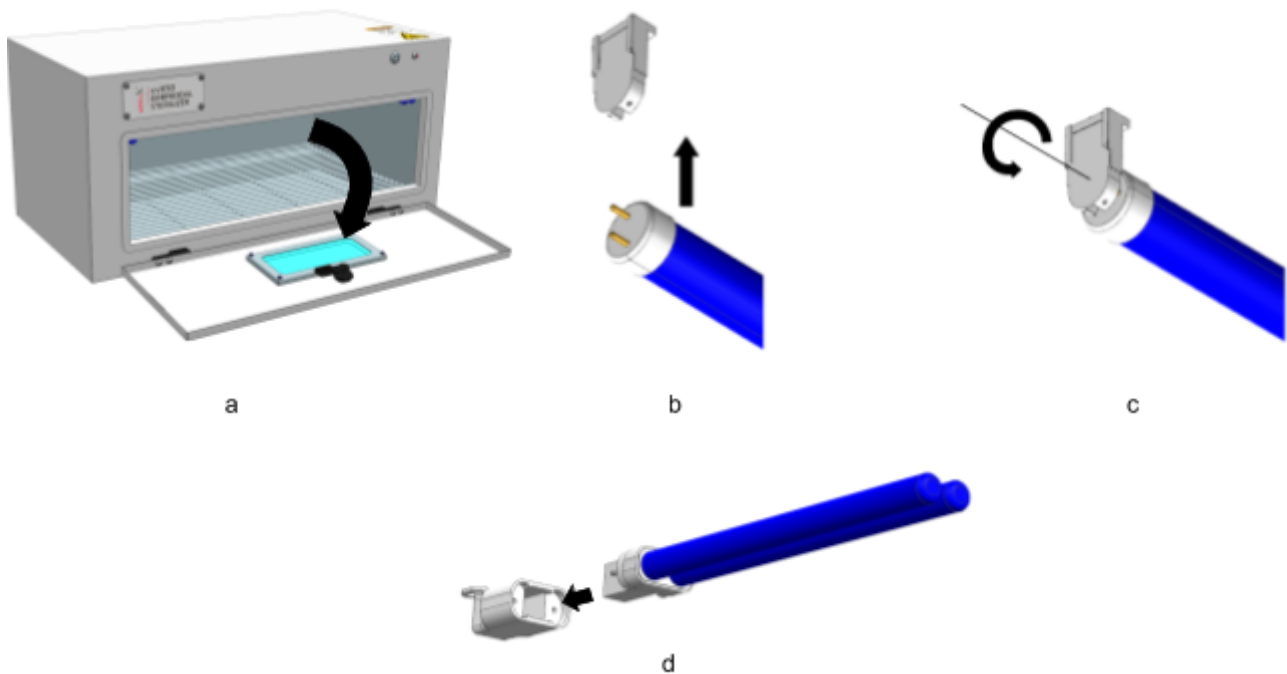

Figure 2: Lamp Installation Instructions
Step 1: Open the door (part 2) of the device by undoing the door latch (part 8). (Figure 2.a)
Step 2: The lamp holders (parts 9 & 10) are located in the upper part of the sterilization chamber. Unpack the 15W UV lamps (part 11) and insert it directly from below into the lamp holders (part 9). (Figure 2.b)
Step 3: Turn the UV lamp clockwise by 90 degrees to secure it in the holders. (Figure 2.c)
Step 4: Unpack the 9W UV lamps (part 12) and slot it into the lamp holder (part 10). (Figure 2.d)